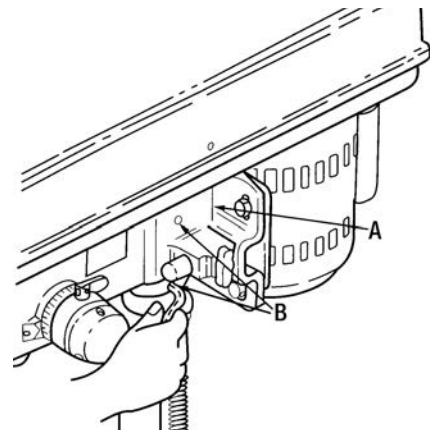

FIGURE 13
1. Remove the protective covering from the head assembly (A) Fig.13.
3. Using a 4mm hex. key, tighten both head set screws (B) on the right side of the head.